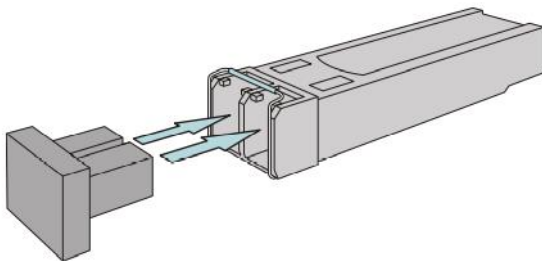

Figure 36: Installing the Protective Cover
- Use a protective cover to blank the SFP transceiver. See Figure 36.